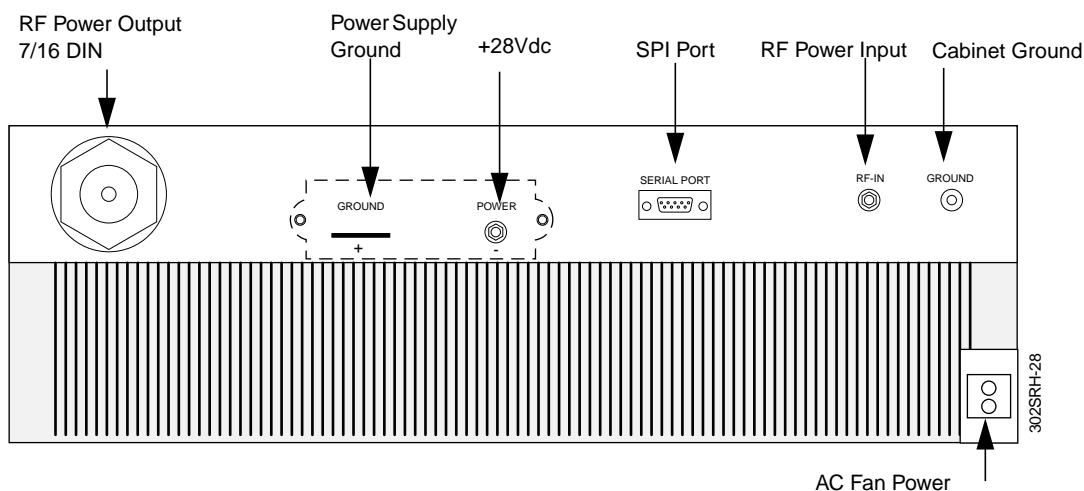

Figure 6-11: Power Amplifier—Rear View
3. From the rear of the cabinet, disconnect the SPI cable from the DB9 connector on the PA (see Figure 6-11).
4. Connect the AC fan cable to the AC fan connector (see Figure 6-11).